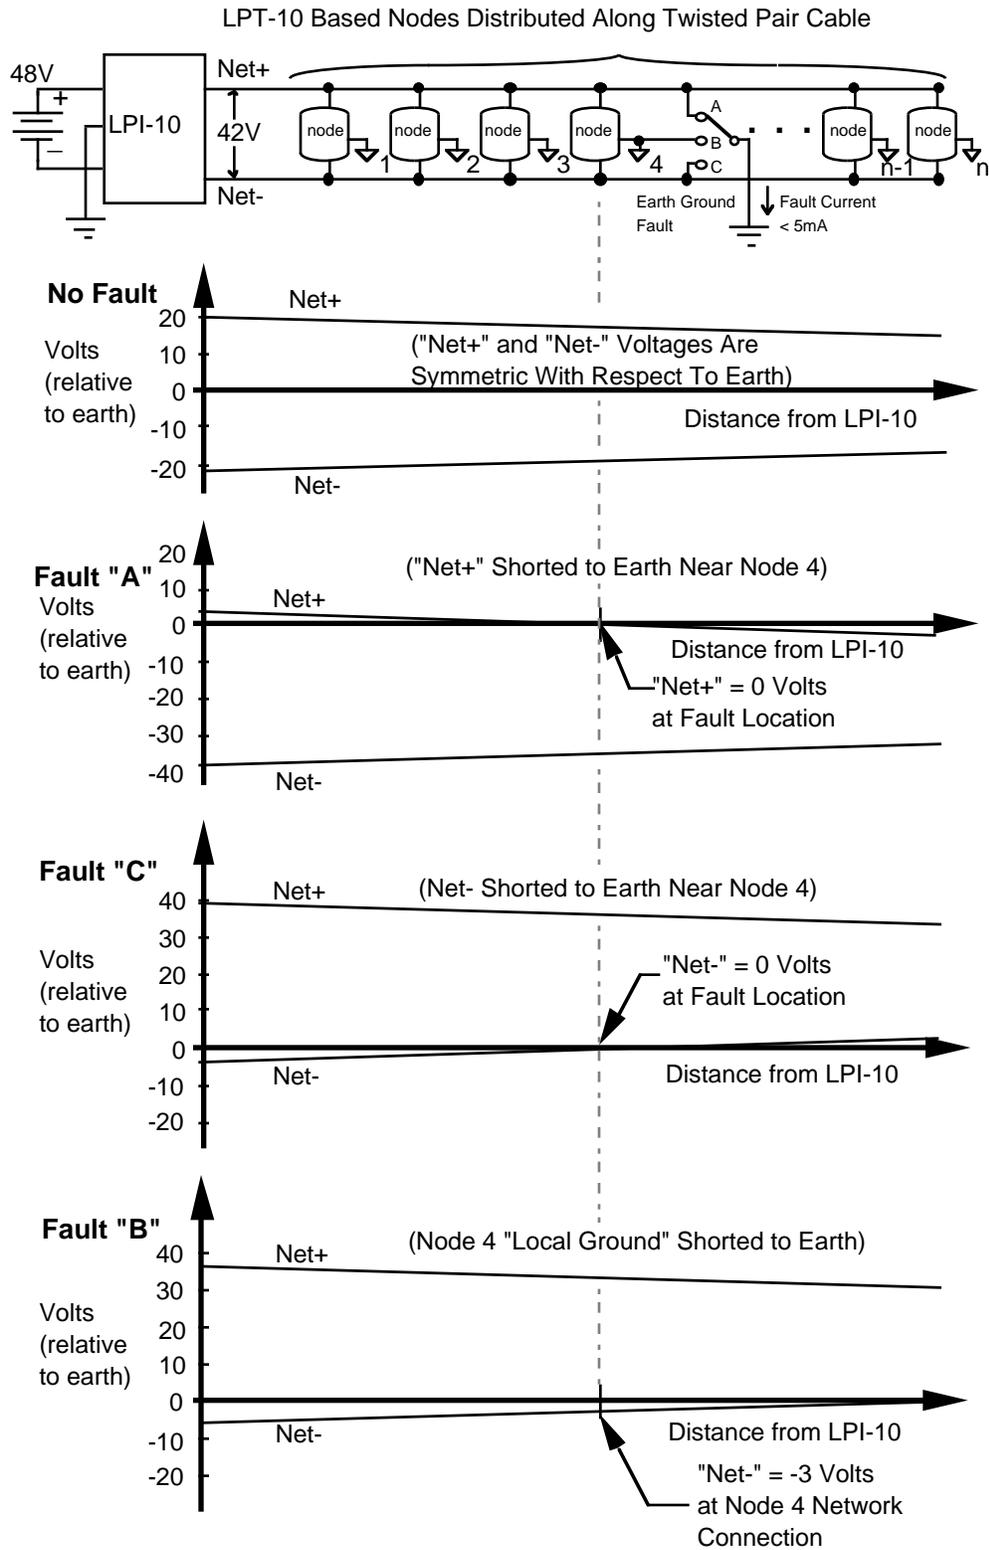

Figure 2.6 Ground Fault Network Voltage Distributions
5. Attach the network wires to the LPI-10 module P2 connector and apply 48V input power. With the meter set to DC Volts, repeat the procedure in step (2) above. If an unbalance condition exists with the "Net+" conductor voltage closer to earth potential, then it is likely the "Net+" conductor is at fault. Locate the fault by finding the point along of this conductor with the minimum voltage with respect to earth. Otherwise use a process of elimination to determine the faulty cable section by systematically disconnecting sections of the cable from the network. See Fault "A" in figure 2.6.
If the "Net-" conductor is closer to earth, locating the fault with a voltmeter can be accomplished in a similar fashion. See Fault "C" in figure 2.6. However, be aware that node-based faults described in (7) below will also result in the "Net-" voltage approaching earth potential.
6. Attach the network wires to the LPI-10 module P2 connector and apply 48V input power. With the meter set to DC Volts, repeat the procedure in step (1) above to measure the LPI-10 module's differential output voltage. In this case, however, if the reading is less than 41V, a network overload condition is indicated. The following are causes of overload conditions and tips to isolate them:
7. If the "Net+" and "Net-" voltages are not centered (especially after having passed step 4 and the "Net-" conductor voltage is close to earth), a fault to earth of one of the LPT-10 transceiver-based nodes is indicated. Local +5V power and ground generated by each LPT-10 node must be isolated from earth for correct operation. A node's "Net-" conductor is at a potential of approximately -3VDC with respect to its local ground. Therefore, if its local ground is directly shorted to earth, the "Net-" conductor at the faulty node will be at a potential of -3VDC with respect to earth. If the twisted pair segment at resident nodes together with an earth conductor are easily accessible, measuring the voltage with respect to earth of the more negative twisted pair conductor can help in locating the vicinity of the culprit LPT-10 node. Otherwise, use a process of elimination to isolate the faulty node by systematically disconnecting sections of the cable or individual nodes from the network. See figure 2.6 "Fault B" for a depiction of the expected network voltage distribution for this situation.